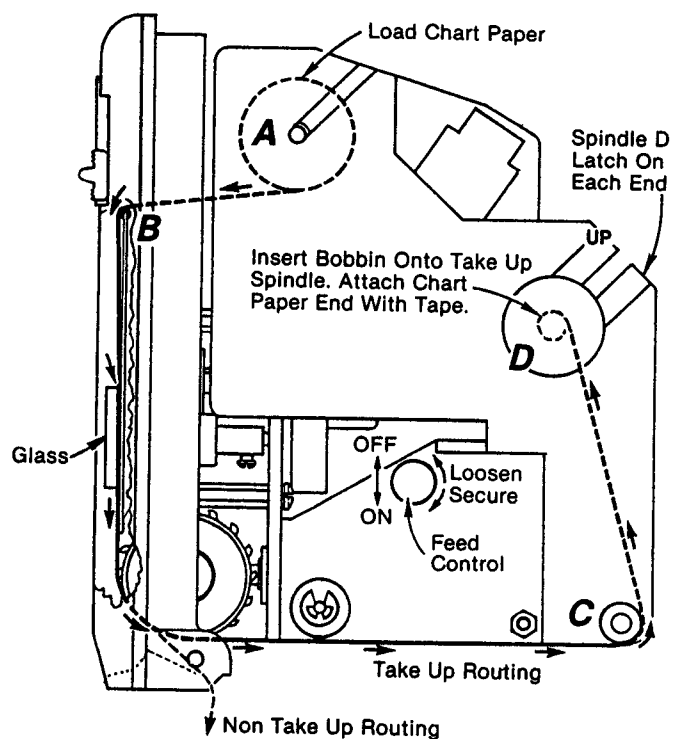
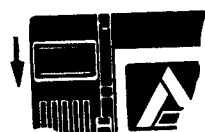

Fig. 9
Fig. 10
3. To insert or remove chart paper, place recorder in horizontal position and press the release button in the direction shown in fig. 10. Raise the recorder mechanism to a vertical position until it locks. Remove feed shaft (A) (see fig. 9) and place chart roll on spindle. Remove tape on roll and retain tape for securing chart on take-up spindle (D). Unroll about 12" to 15" and route paper over top edge of scale plate (B) underneath glass, over the sprocket wheels, to the rear and over the idle roller (C) up to the cardboard bobbin mounted on take-up spindle (D). Secure edge of chart to bobbin with tape. Make sure the sprocket holes in the paper engage the sprocket wheels. Be sure that feed control is tight and in the right position. The word "on" must be visible. Press in the idle roller extension (C) to allow the recording mechanism to move back down into case and lock into position. Replace cover by positioning the "U" bend onto the plastic projections and snap front down. Make sure chart paper is not binding with the cover in place. For "non-take-up" recording, route chart through bottom slot as shown in fig. 9.
4. To remove chart from take-up spindle (D), move the latches away from the take-up spindle. Turn knurled knob on spindle (D) until the slot in the take-up drive pulley at the opposite end of the spindle is lined up with the slot in the side frame of the recorder. Slide the spindle and chart up and out of the slots in the side frames of the recorder. Remove tape from chart and bobbin.